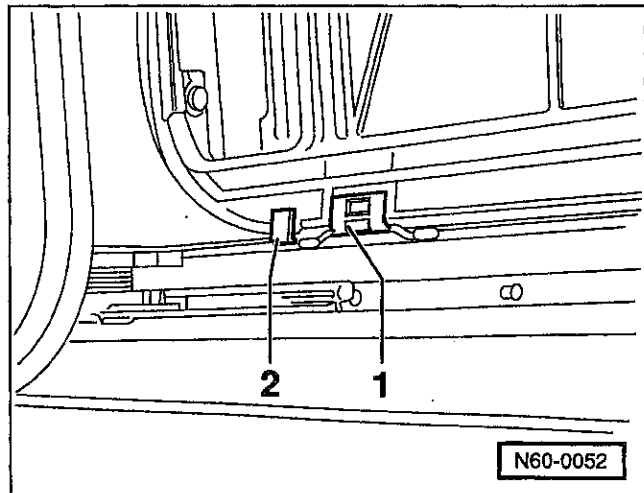

Fig. 13. Unclip stop (2) on one side, press headliner toward this side. Slide shown at (1).
2. Unclip stop on one side and press headliner towards this side. See Fig. 13.